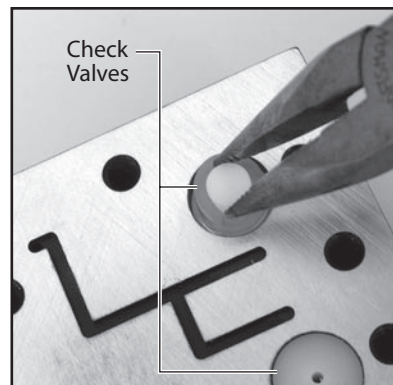

Figure 4
- 6 Remove the two check valves (**figure 4**). Be certain to note their orientation in the pump body. The top check valve is the pressure side. It can be removed with a pair of small pliers. Do not damage the sides of the hole into which the check valve is installed. The bottom check valve is the vacuum side. It can be removed by screwing a small self-tapping screw (such as a small wood screw) into the small hole and pulling the check valve straight out. Once again, be careful not to damage any sealing surfaces. Discard the check valves.